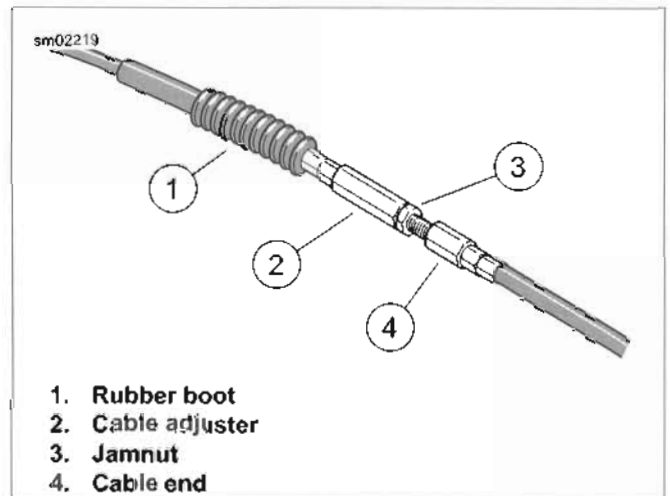
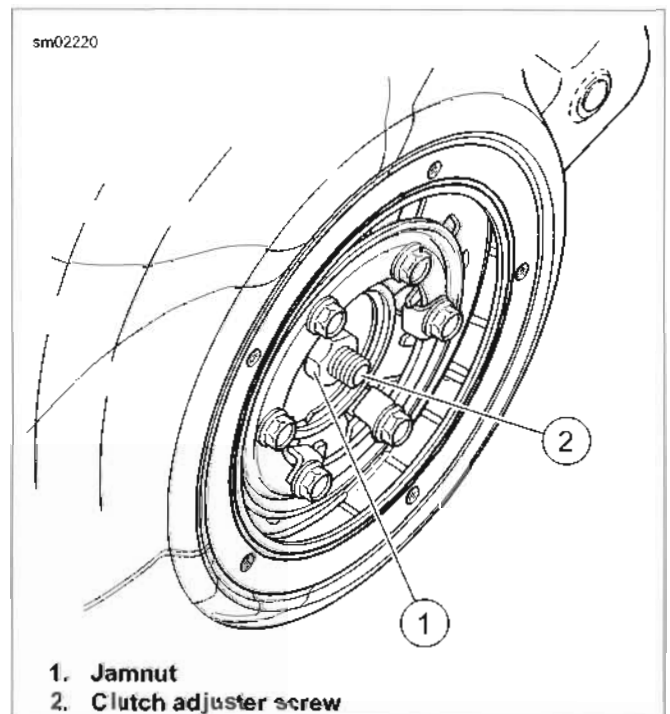

Figure 1-16. Clutch Cable Adjuster
Figure 1-17. Clutch Adjuster Screw
4. See Figure 1-16. Add free play to cable.
- a. Slide rubber boot (1) off cable adjuster.
- b. Loosen jamnut (3).
- c. Turn cable adjuster (2) until there is a large amount of free play at clutch hand lever.
5. See Figure 1-17. Loosen jamnut (1) on clutch adjuster screw (2). To take up all free play, turn screw inward (clockwise) until lightly seated. Activate the clutch lever to verify the balls are seated in the ramps.